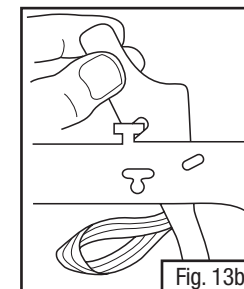
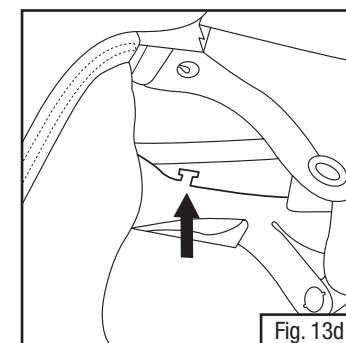

Fig. 13b
Fig. 13d
- Locate the "T" hooks on the suspension (Fig. 13d). The plastic tab of the faceseal attaches to this hook on the suspension. To attach, slide the tabs in **between the suspension and the headgear shell**. Attach notch in faceseal tabs onto the "T" hooks located on the suspension headband (Fig. 13b).